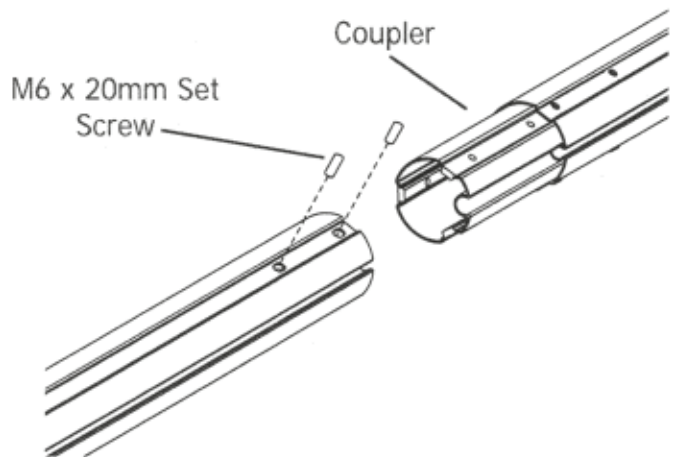

Fig. 4-1
4-1: Slide a rail coupler within the inside of the rail tube end and fasten (2) M6 x 20mm set screws (Fig. 4-1) for 10 ft rail. Repeat process for 2 ft extension if assembling the 12 ft rail.
4-2: Take the second rail and slide it over the rail assembly from step 4-1 and fasten (2) M6 x 20mm set screws (Fig. 4-1) to create a 10 ft assembly. Add additional the 2 ft rail assembly from step 4-1 and fasten, if assembling the 12 ft rail.